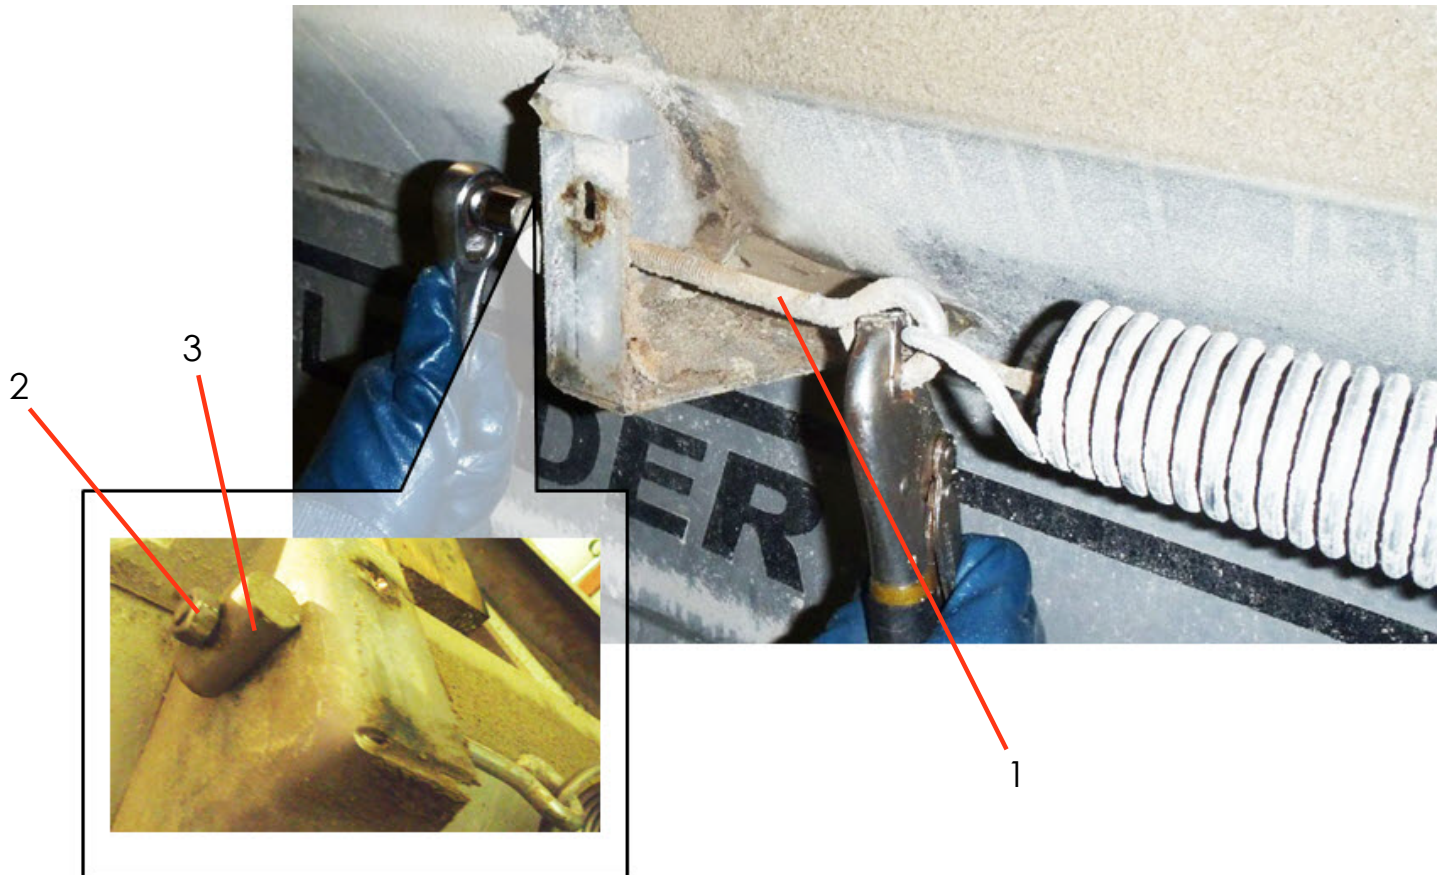

Figure 13
13. Figure 13 - Use Vise Grips to secure eyebolt (1). Reinstall spring eyebolt using original spring pivot (3) and hardware. Thread 3/8" nut (2) onto eyebolt ONLY 1/2" at this time.